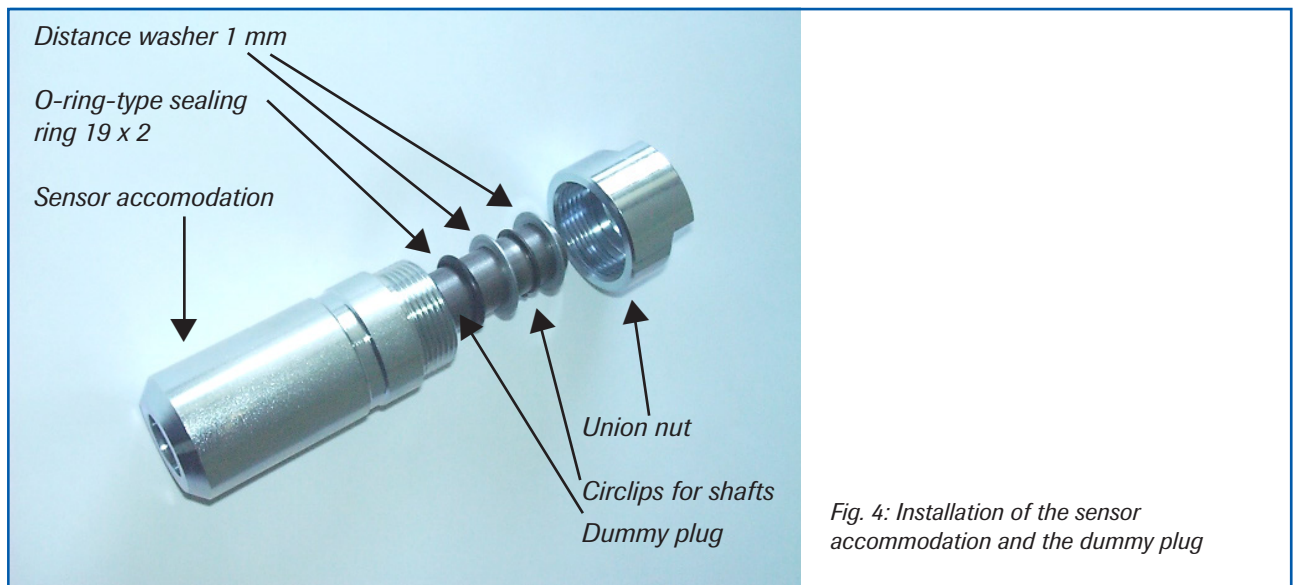

Fig. 4: Installation of the sensor accommodation and the dummy plug
- If the sensor is not installed immediately insert a dummy plug until it is installed (see also fig. 4). The dummy plug must be inserted together with the seal, two sealing rings and the circlips for shafts and secured using the union nut. Use a 32 mm open-ended spanner to tighten the union nut.